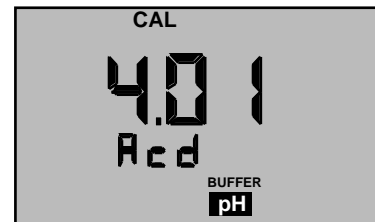

Figure 2
2. At this point the “CAL”, “BUFFER” and “Acid” or “bAS” annunciators will be lit (see Figures 2 and 3).